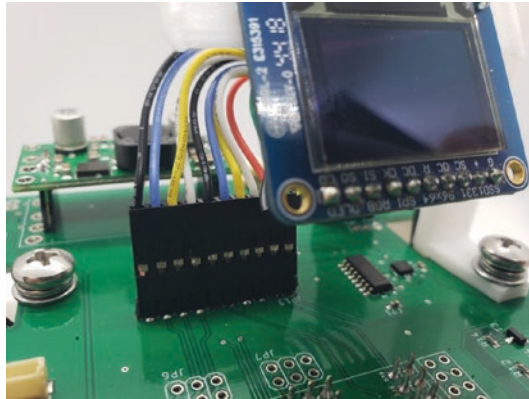

Figure 8-63. *Attach the LCD connector to the PCB*
18. Connect the other side of the LCD wiring harness to the PCB. Use a multimeter just to make sure all contacts are making the proper connection. See Figure 8-63.